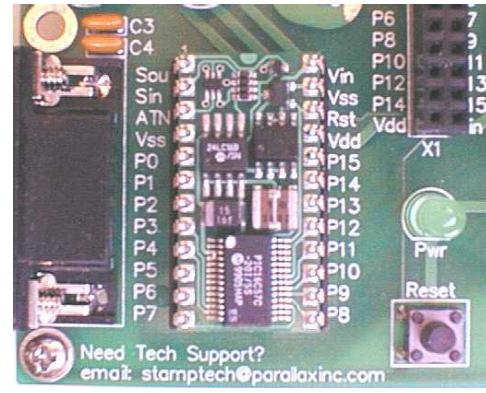

Figure 1.12: BASIC Stamp 2 inserted into its socket on the BOE.
Figure 1.12 shows the BASIC Stamp 2 mounted in its socket on the BOE. The BASIC Stamp has a half-circle printed in the center of its top edge. This is meant to serve as the reference notch common on many integrated circuits. When placing the BASIC Stamp in its socket on the BOE, make sure this half-circle is closest to the Sout and Vin labels. As a second check, make sure the largest black chip with the label PIC16C57C is at the bottom, between the P7 and P8 labels.
- ❑ If your BASIC Stamp and BOE were packaged separately, plug the BASIC Stamp into its socket on the BOE as shown in Figure 1.12. Make sure the pins on the BASIC Stamp line up with the holes in the socket, then press down firmly on the BASIC Stamp with your thumb. The BASIC Stamp's pins should sink into socket holes by about a quarter-inch.